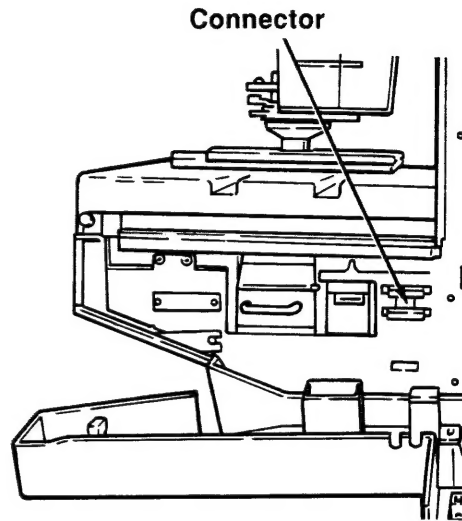

Figure 2-2D
6. Plug the Wiring Harness of the Roll Film Transport into either of the connectors on the left side of the Reader-Printer for newer machines, or open the Right Side Door of the Reader-Printer and plug the Wiring Harness of the Roll Film Transport into either connector (Figure 2-2D) for older machines.